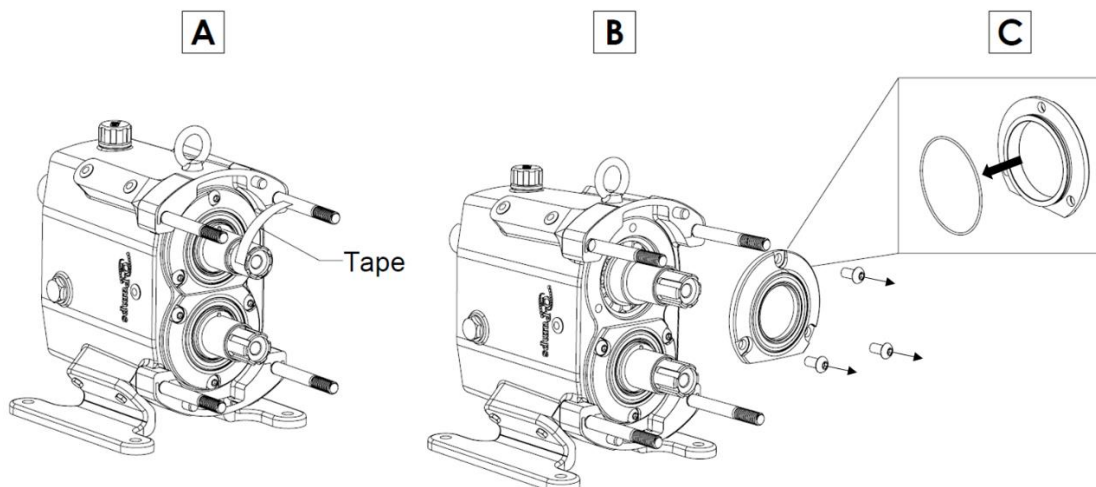

Figure 45: Tape Shafts and Remove Bearing Retainers
3) To prevent damage to the shafts, wrap the shaft splines with electrical tape (Figure 45, A). Any damage to the shaft splines may require the shaft to be replaced. Remove the screws holding the bearing retainers in place and slide both bearing retainers off the shaft (Figure 45, B). If they are stuck, use a flat head screwdriver as a wedge to pry them from the gear case or leave them in place and when the shafts are removed, they will press off with the shafts. Remove the o-rings from the bearing retainers and replace if damaged.